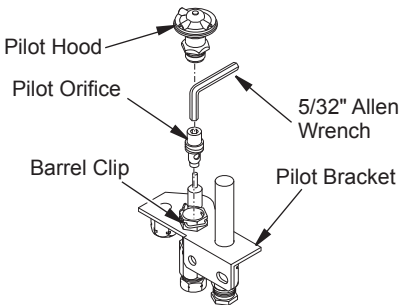

Figure 34 - Converting Pilot
7. Remove pilot hood by pulling up until it disengages from barrel. Do not remove the retainer clip (see Figure 34).